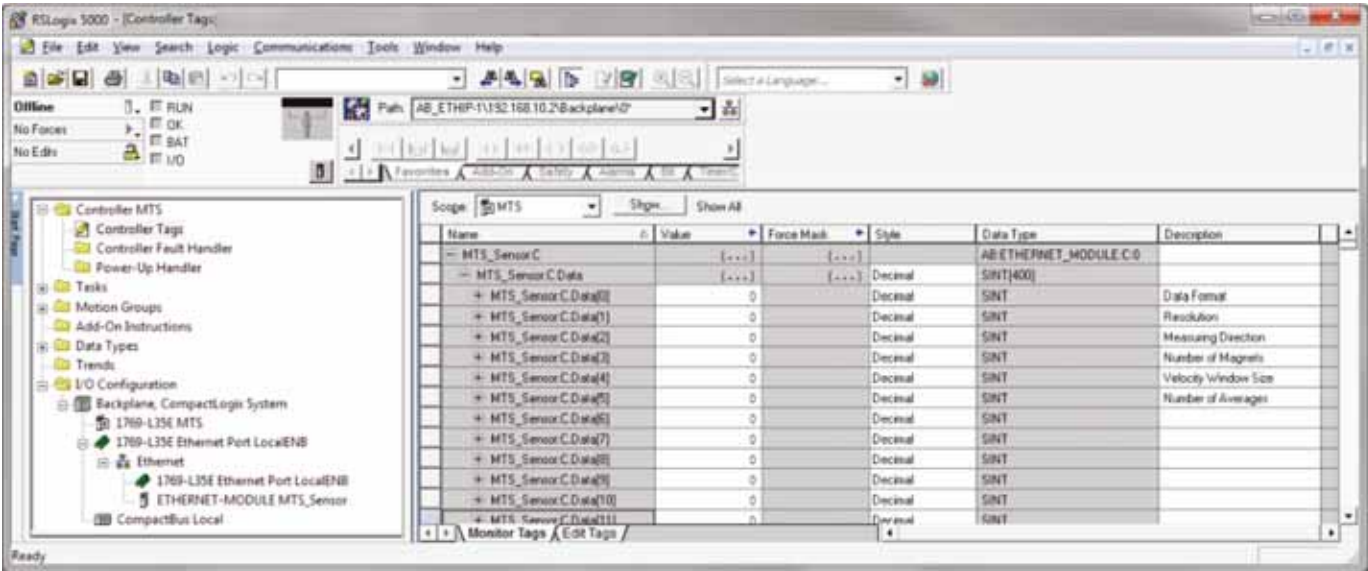

Fig. 74: Device control tags
7.6.1 In the 'I/O configuration tree', click to open the 'Controller Tags' directory. The controller tag table displays in the left pane (Fig. 74). The description column fields will be blank by default.